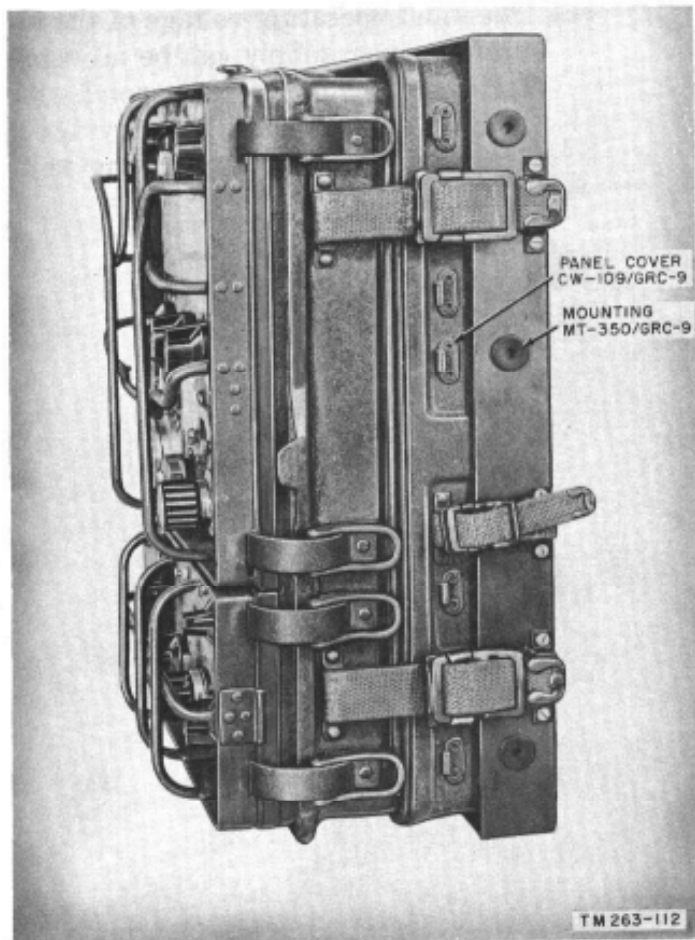

Figure 37. Receiver-transmitter mounted for vehicular use.
c. Remove Panel Cover CW-109/GRC-9 from the receiver-transmitter (par. 32*a*(1)) and replace the latches on the case to the projections on the receiver and transmitter sections (par. 32*a*(2)). For normal operations, place the cover between the receiver-transmitter and Mounting MT-350/GRC-9 (fig. 37).
**Caution:** When removing the panel cover, be sure to refasten the latches to the receiver-transmitter chassis (fig. 37).